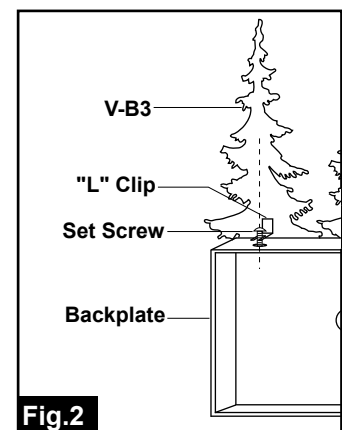

Fig.2
- a. Take a silhouette and place it onto the backplate with the hole in the backplate aligning the slot in the clip of the silhouette, secure it with a set screw. (See Fig.2)